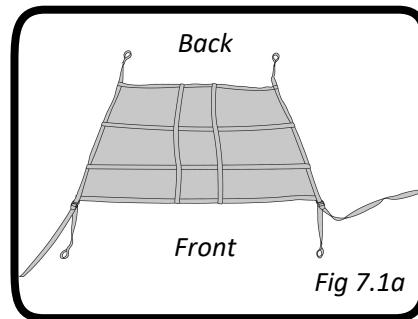

Fig 7.1a
1. The non-adjustable ends of the cargo net (K) attach to the back of the frame. (Fig 7.1a)